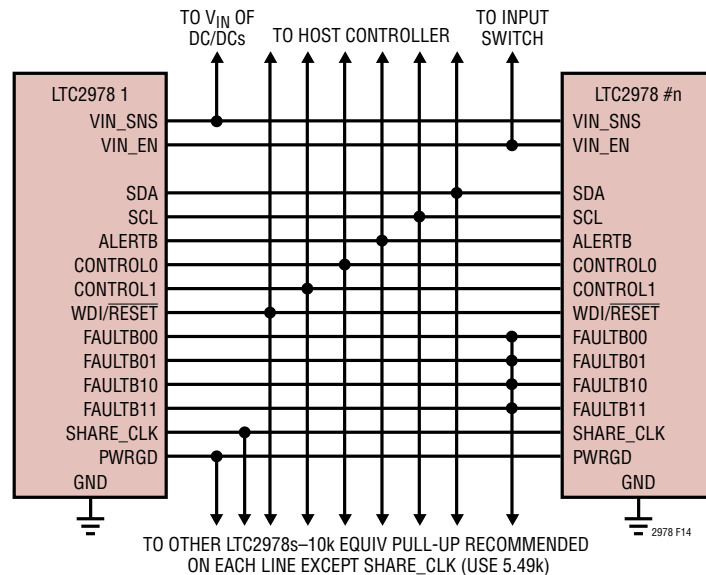
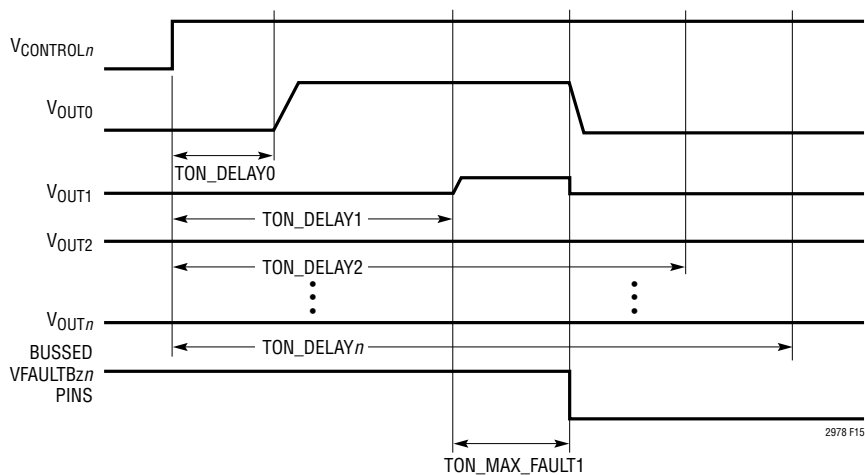

Figure 14. Typical Connections Between Multiple LTC2978s
Figure 15. Aborted On Sequence Due to Channel 1 Short
Figure 14 shows how to interconnect the pins in a typical multi-LTC2978 array.
- Connecting all V_{IN_EN} lines together will allow an overvoltage (OV) fault on any DC/DC converter's output in the array to shut off a common input switch.
- The $FAULTBzn$ lines can be connected together to create fault dependencies. Figure 14 shows a configuration where a fault on any $FAULTBzn$ will pull all others low. This is useful for arrays where it is desired to abort a startup sequence in the event any channel does not come up (see Figure 15).
- $PWRGD$ reflects the status of the outputs that are mapped to it by the MFR_PWRGD_EN command. Figure 14 shows all the $PWRGD$ pins connected together, but any combination may be used.